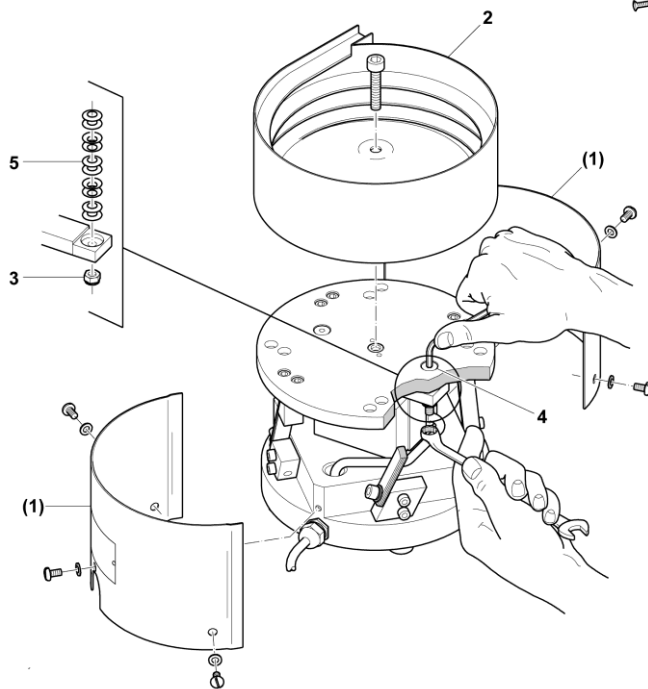

Figure 18
4. remove the screws (4) and exchange the magnet (5) (see Figure 18)
5. Insert new magnet and retighten the screws (4) (see Figure 18).